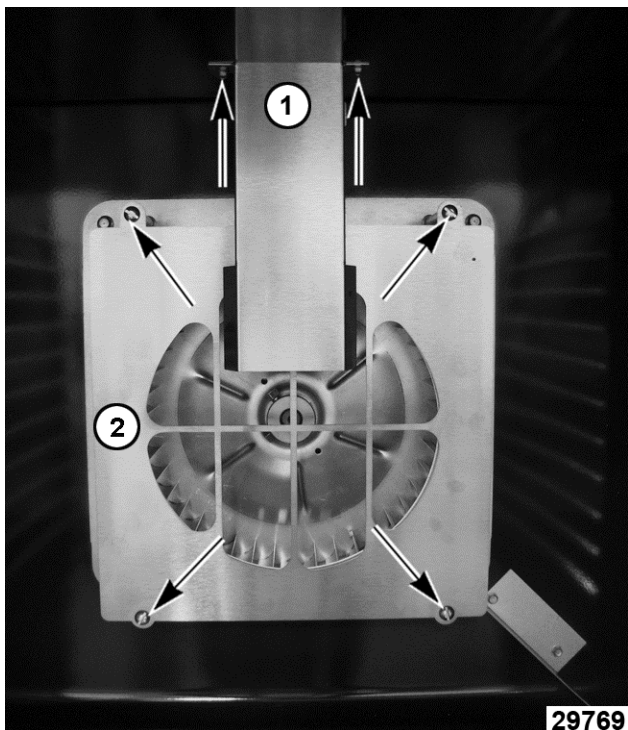

Fig. 28
12. Install snorkel (1, Fig. 28) and baffle panel (2, Fig. 28).